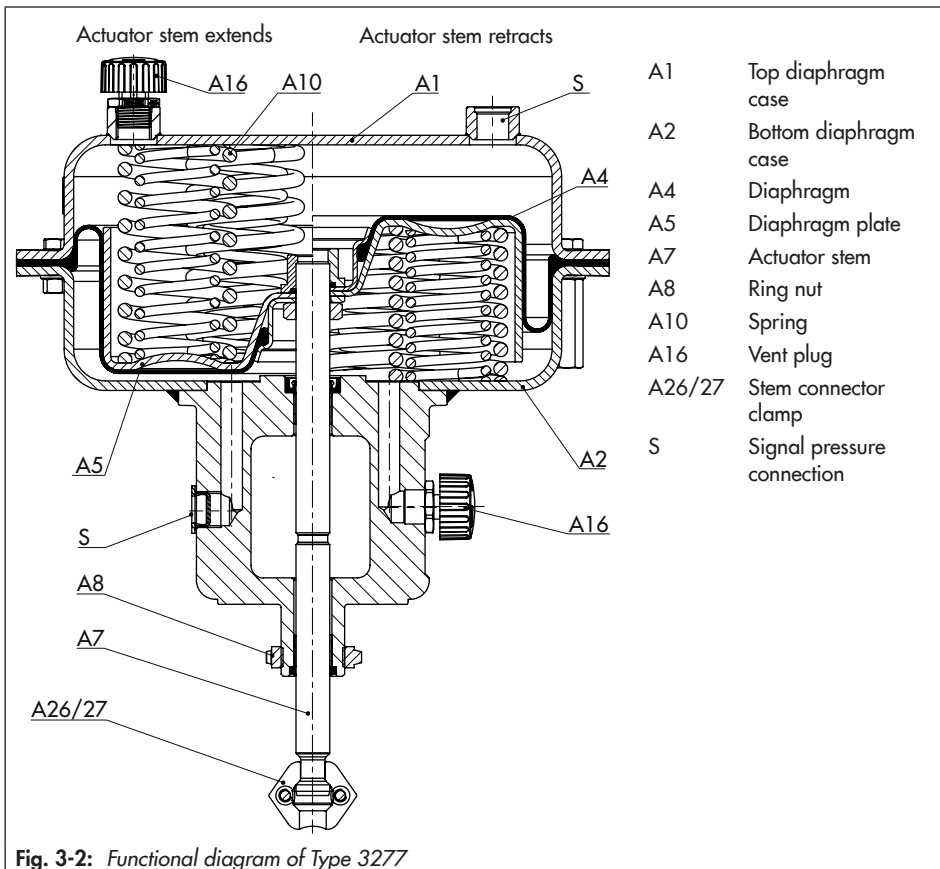

Fig. 3-2: Functional diagram of Type 3277
The principle of operation is the same as that of the Type 3271 Actuator. The Type 3277 Actuator is fitted with an additional yoke on the bottom diaphragm case (A2) (see Fig. 3-2). The yoke allows the direct attachment of a positioner and/or limit switch. The benefit of this design is that the travel pick-
In the "actuator stem extends" version, a signal pressure connection (S) is located on the side of the yoke which is connected to the bottom diaphragm chamber over an internal hole (see Fig. 3-2, left side). The signal pressure moves the actuator stem upward opposing the spring force. A positioner can be connected using a connection block at this point. No additional piping to the actuator is required. Refer to the associated positioner documentation for more details.
In the "actuator stem retracts" version, similar to Type 3271, the signal pressure is routed through the top signal pressure connection (S) to the top diaphragm chamber and moves the actuator stem (A7) downward opposing the spring force (see Fig. 3-2, right).